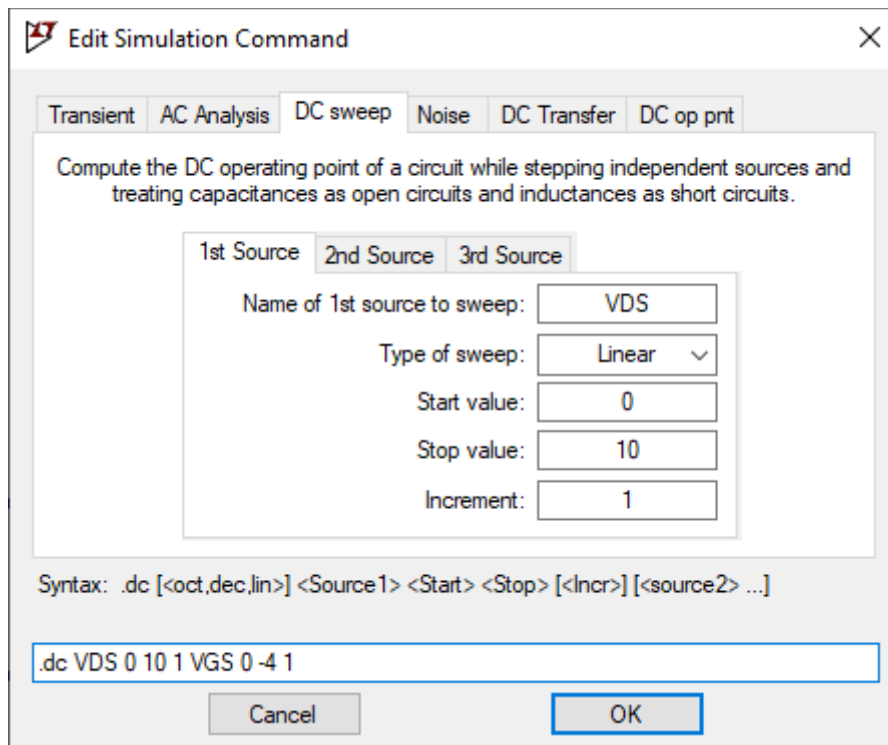
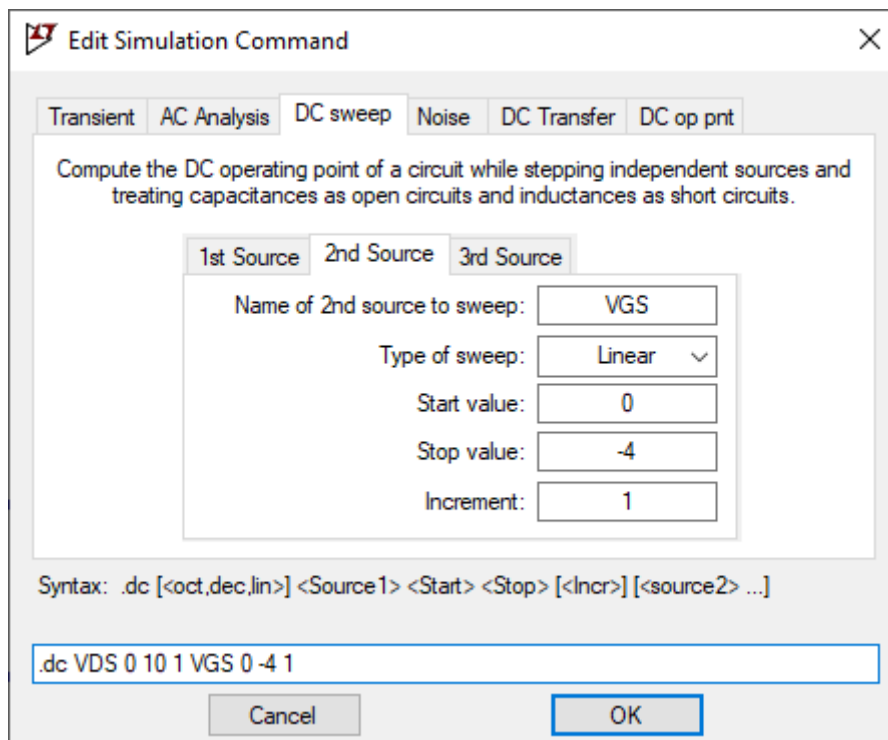

Fig. 5. DC analysis specifications for 1st source
Fig. 6. DC analysis specifications for 2nd source
4. Run the system , choose **DC sweep**, pay attention that in this experiment there are two voltage sources. Set their specifications as shown in Fig. 5 and Fig. 6: